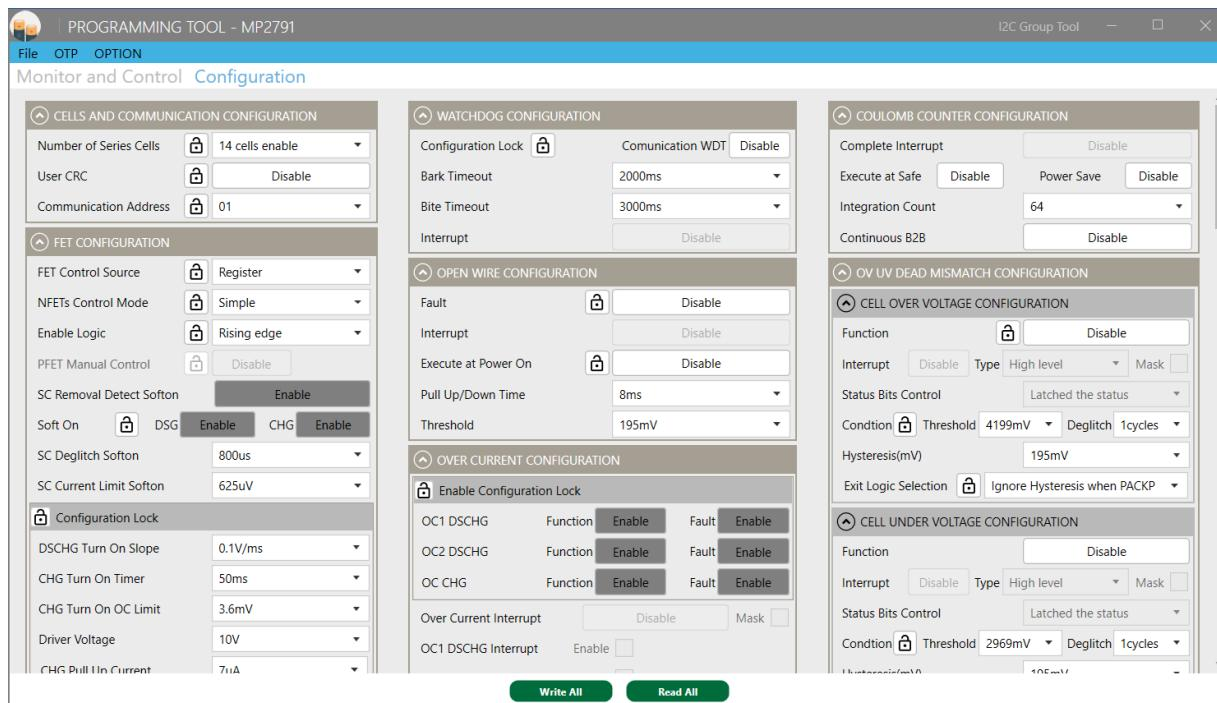

Figure 10: OTP and MTP View
4. In OTP and MTP view, all parameters that are not relevant to OTP and MTP cannot be modified. Any other parameters can be adjusted as necessary (see Figure 10).